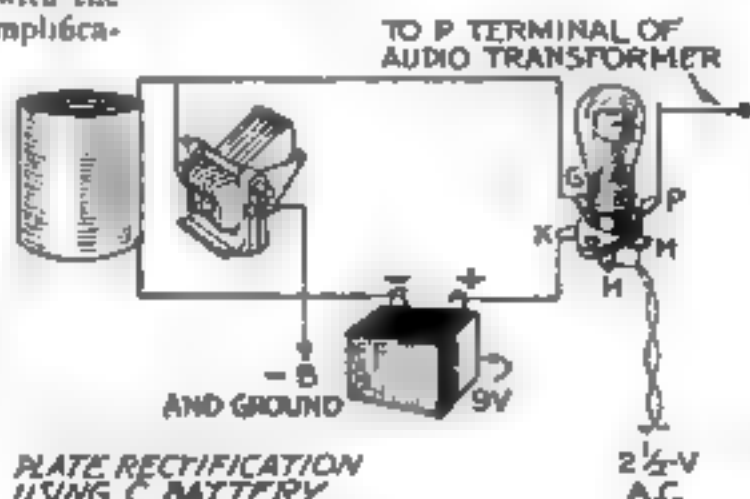

Fig. 3. The best possible way of obtaining the C bias voltage for the power detector.
Figures 3, 4, and 5 show three forms of the power detector circuit. They are identical except in the method of obtaining the necessary C bias. All of these diagrams show the use of the UY 227 A. C. heater type tube. In Figure 3 the necessary C bias is obtained from a C battery. This is the best possible method, and we recommend it to those of our readers who wish the finest results. A bypass condenser should be connected across the leads to the C battery, unless the latter is mounted in the set.
**F**IGURE 3 also shows the correct method of operating a 201A storage battery tube in the power detector circuit. The plus terminal of the C battery is connected to the minus filament terminal of the tube socket, and minus B is, of course, connected as in the usual battery hookup—that is, either to plus A or minus A, instead of as shown in Figure 3.